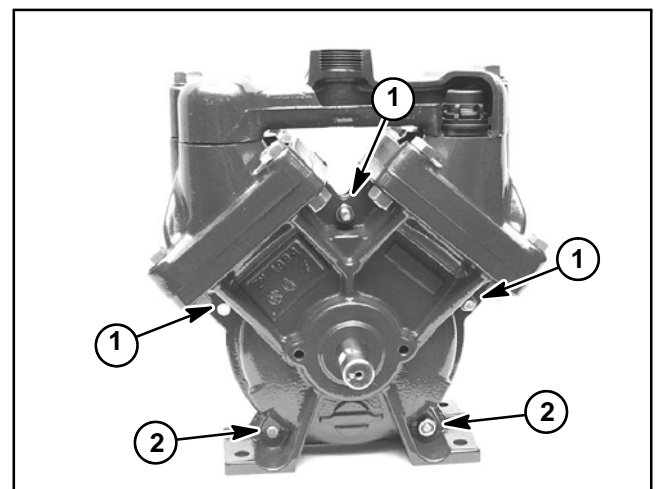

Figure 13
3. Install three (3) shorter (30 mm) and two (2) longer (55 mm) bolts into pump casing assembly (Fig. 13). Thread hex nuts onto bolts but do not fully tighten. Check that crankshaft turns freely.